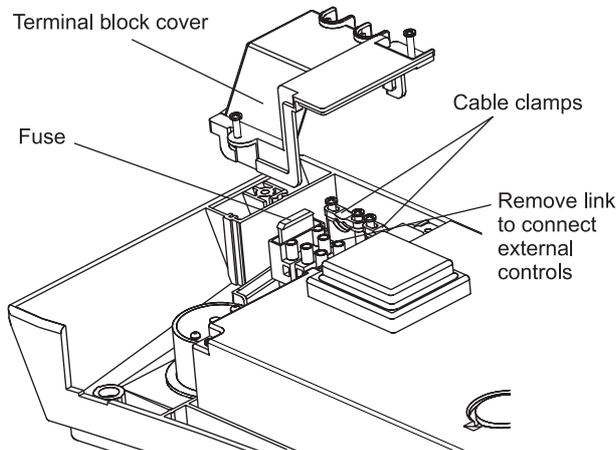

Fig. 20a - HE CB25/33
4.8 CONNECT THE MAINS SUPPLY - Fig. 20a or 20b
Remove the two screws securing the terminal block cover from the back of the control box (see Fig. 20a or b). Pass the mains supply cable through the cable clamp and connect as follows:- Brown to L, Blue to N and Green/Yellow to \perp . Ensure correct polarity.